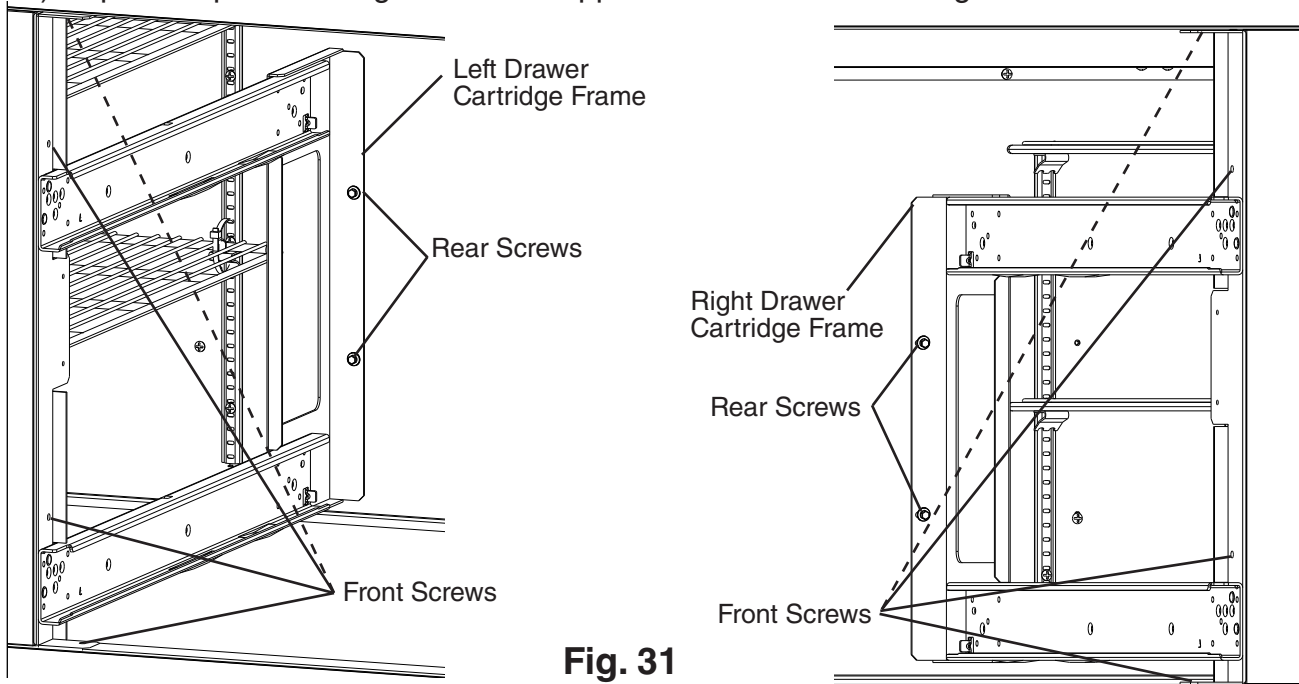

Fig. 31
- 21) Place a drawer cartridge frame in place and secure to the rear panel with screws removed in step 4. See Fig. 31.